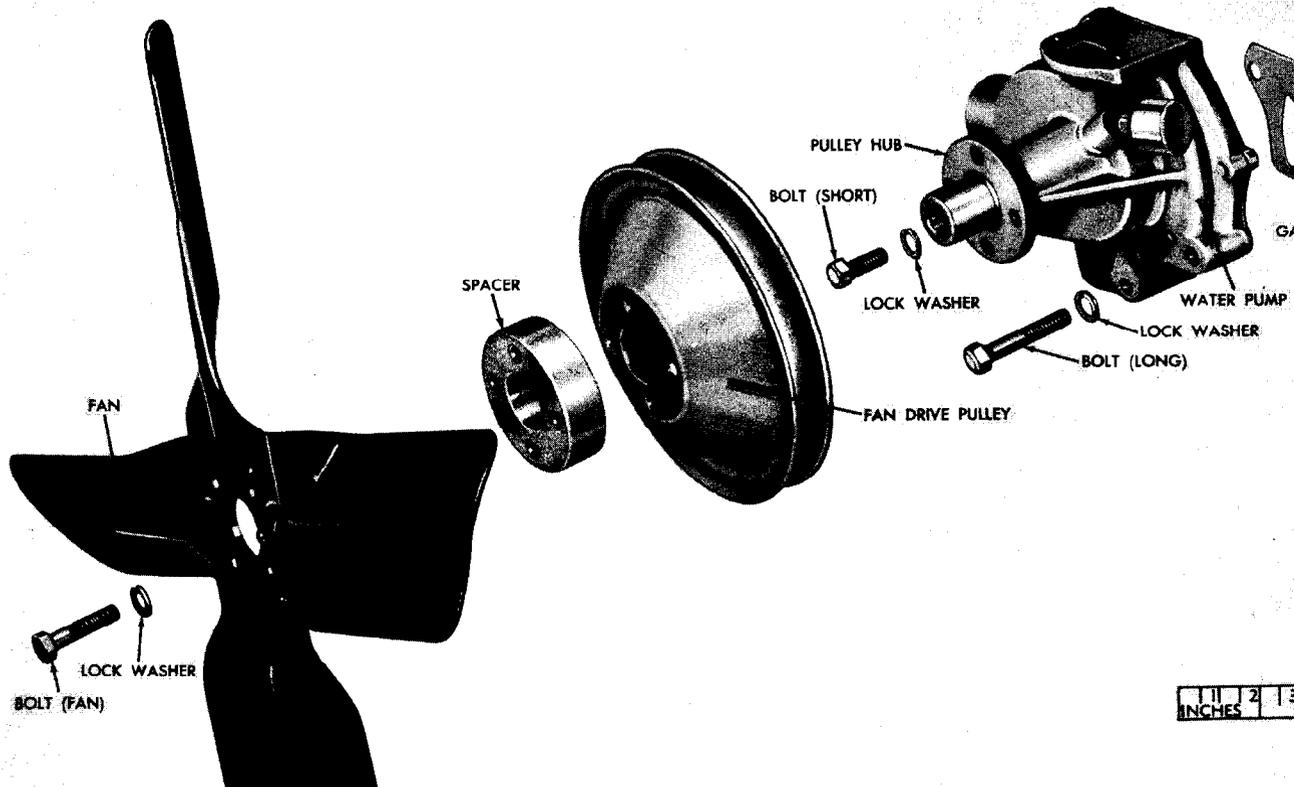

Figure 122. Fan, water pump, and related parts—exploded view.
- (1) Loosen the fan belt (par. 152*b*) and disengage it from the fan drive pulley (fig. 122).
- (2) Remove the four bolts and lockwashers that secure the fan, spacer, and fan drive pulley to the pulley hub and remove the fan, spacer, and fan drive pulley.